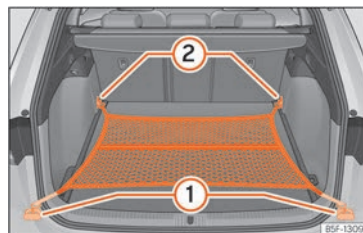

Fig. 132 In the luggage compartment: net bag hooked up at floor level.
- Secure the net hooks to the fastening rings ① and ② »» Fig. 132 »» ⚠. The bag zip should be facing upwards.